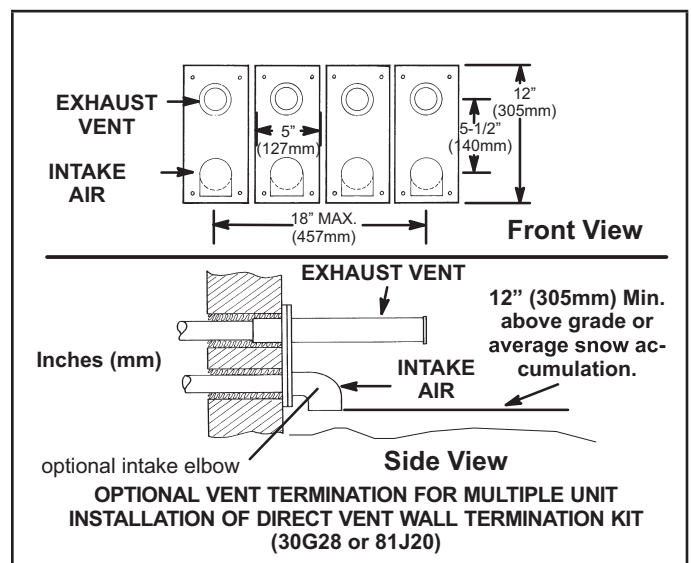

FIGURE 33
- 8 - A multiple furnace installation may use a group of up to four terminations assembled together horizontally, as shown in FIGURE 33.